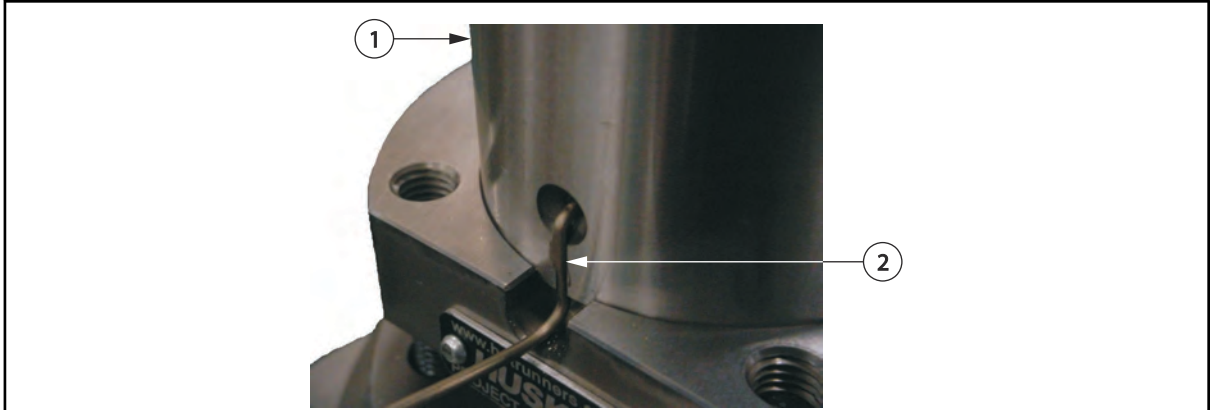

Figure 4-30: Sprue Body Thermocouple Temporary Fit
- 48.** Using electrical pliers, temporarily install the sprue body thermocouple into the sprue body. Fit the thermocouple to the sprue body as shown in Figure 4-30.